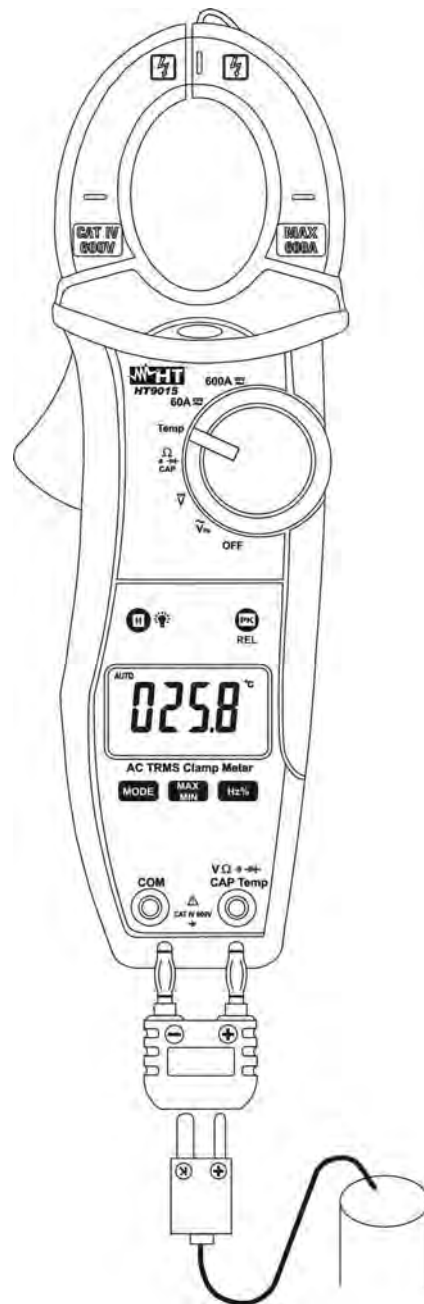

Fig. 8: Taking Temperature measurement
3. Insert the type K bead probe in **VΩ CAP Temp** and **COM** inputs terminals using the standard adapter and observing the correct polarity (see Fig. 8). The temperature value is shown at display